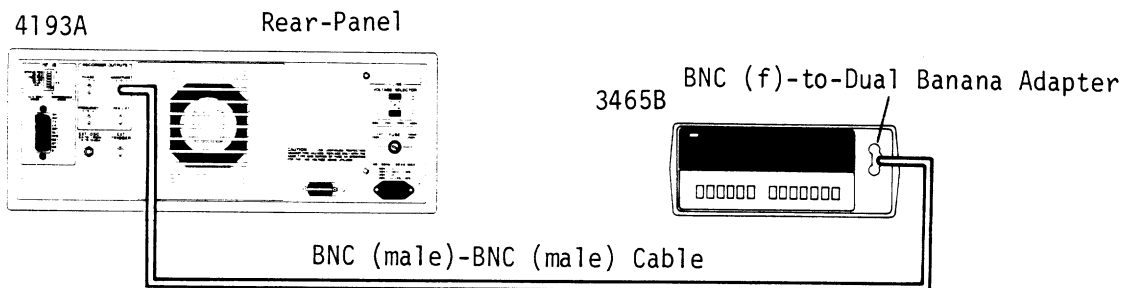

Figure 4-6. Recorder-output Voltage Accuracy Test Setup.
1. Connect the INPUT of the 3465B to the MAGNITUDE RECORDER OUTPUT terminal on the rear-panel of the 4193A. Refer to Figure 4-6.